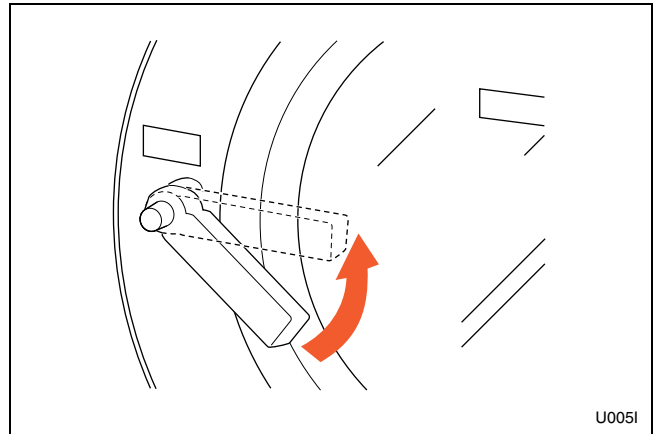

Figure 38
4. Close door and turn handle counterclockwise until button pops out. Refer to *Figure 38*.